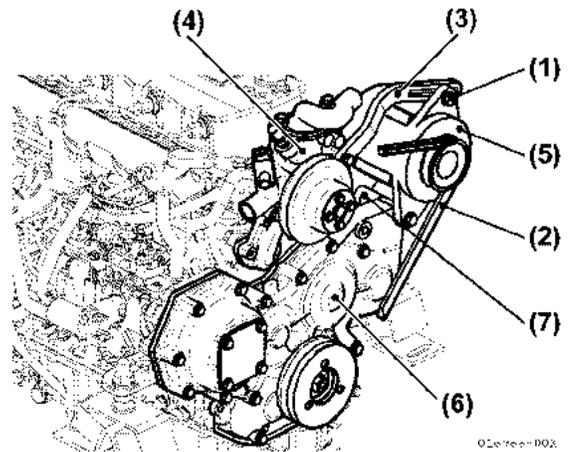

Figure 5-11
9. Remove the adjuster from the freshwater pump, and remove the alternator from the gear case (with spacer) (Figure 5-11).